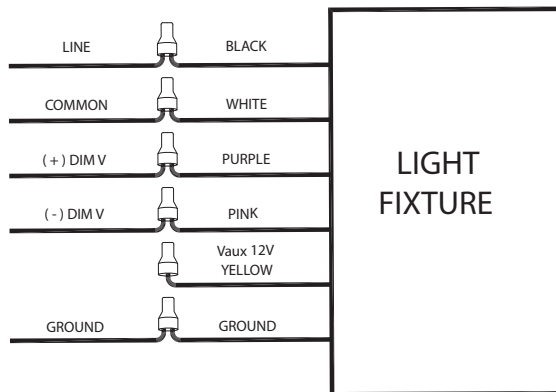

Fig: 6
Follow instructions below to change the **Fixture Color Temperature (CCT)** and/or **Power (W)** from factory settings see Fig. 5 and Fig. 6.
2. Locate the **Selector Switches** on the **Fixture Back Plate** as shown in Fig. 5 and Fig. 6.
3. Select **Color Temperature (CCT)** and/or **Power (W)** by sliding the respective switch to the desired value.
4. Replace **Fixture Back Plate** and secure with **Screws (4)**.
Universal voltage driver permits operation at 120V thru 277V, 50 or 60 Hz. Units ordered with (/480V) suffix are 480V. For 0-10V follow the wiring dimming as shown in Fig. 6.